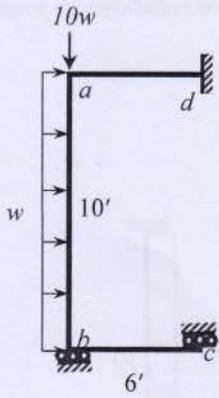

Fig. 6
6. Use Stiffness Method (neglecting axial deformations) to calculate the value of the applied load  $w$  required to cause buckling of the frame  $abcd$  loaded as shown in Fig. 6